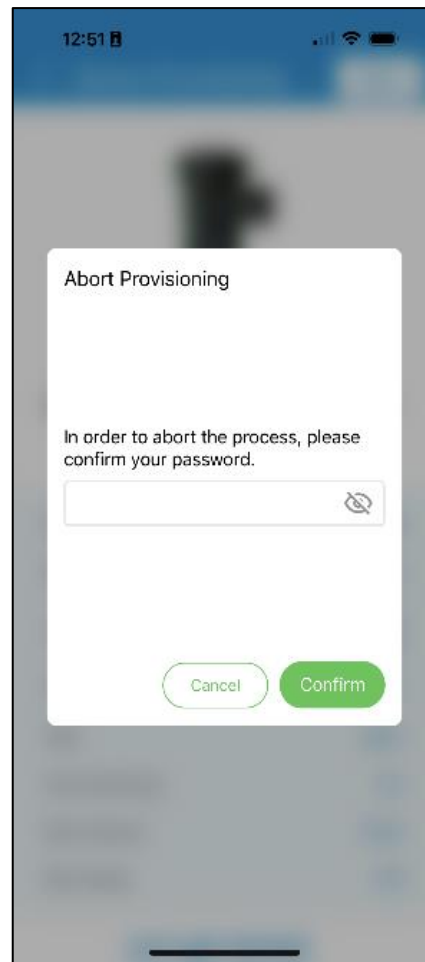

Figure 32
- e. Enter your GroundWorx Password to confirm “Abort.” (Figure 32)
- d. Input your Password to confirm "Abort." (Figure 32)